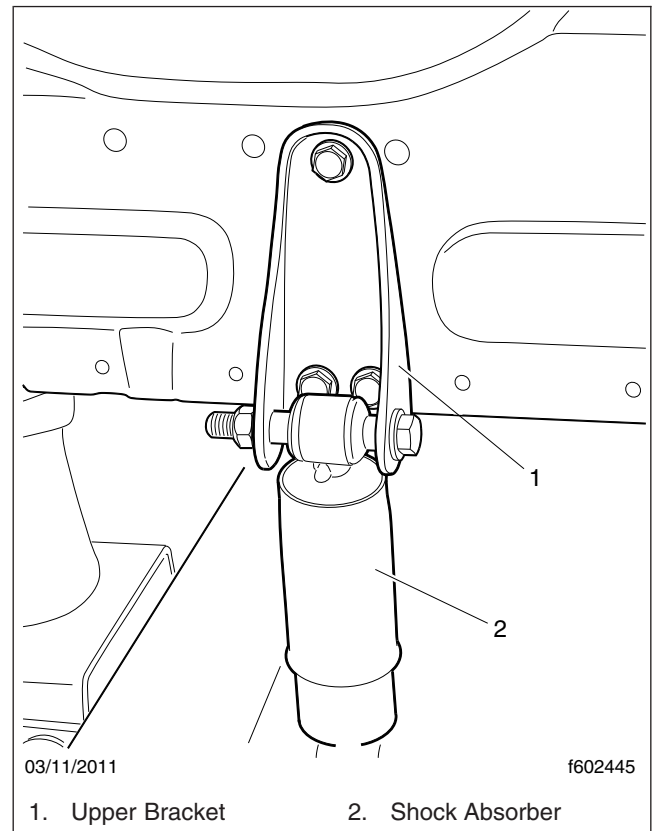

Fig. 1, Cab Shock Absorber and Upper Bracket
2. Check the torque on the upper bolt that attaches the shock absorber upper bracket to the cab. If loose, tighten the bolt 34 lbf-ft (46 N-m). See Fig. 1.